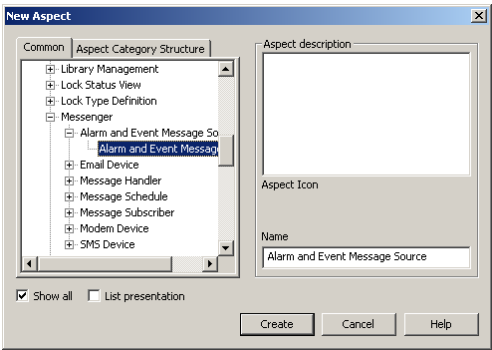

Figure 110. New Aspect Dialog Box (Alarm and Event Message Source)
- b. Navigate to and select Alarm and Event Message Source from the list that appears to produce the view shown in Figure 110.